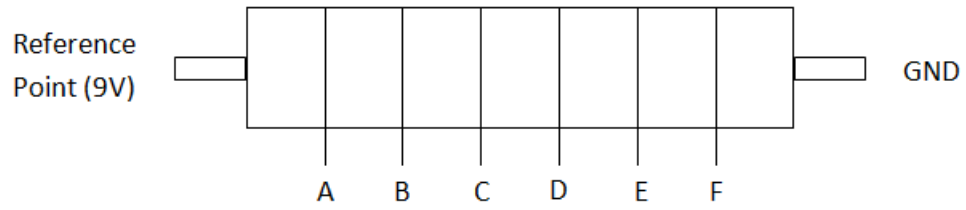

Figure 2.13: Variable Resistor
1. Using a #2B pencil, fill in all of the boxes in Figure 2.13 below.